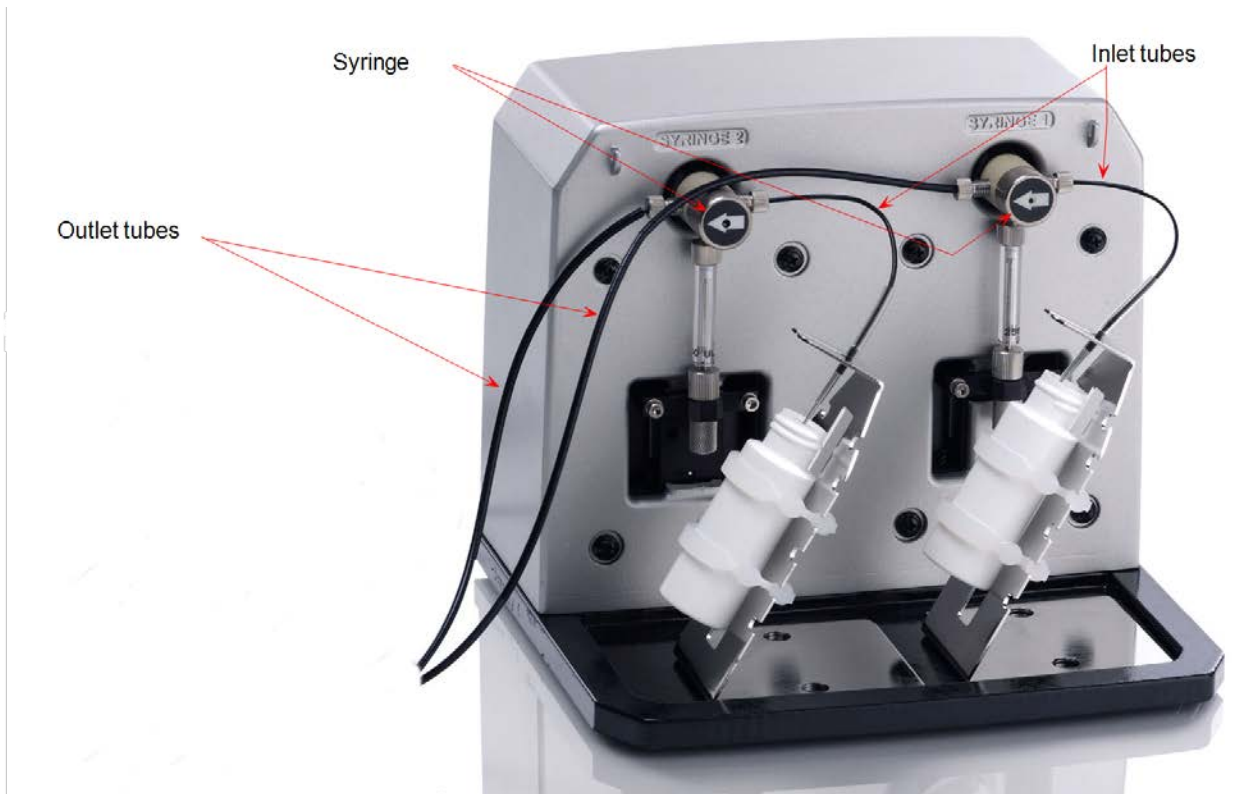

Figure 11: The fully assembled dispense module
- ❖ The dispense module's setup should resemble the photo in **Figure 11**. Make any final adjustments, if necessary.